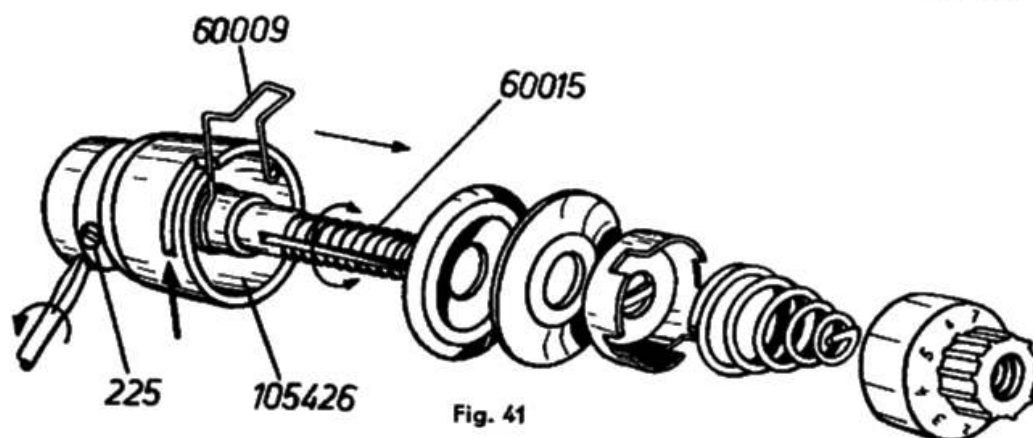

Fig. 41
reached from above. Then the complete tension can be pulled forward out of the machine. (Make certain that you do not lose the tension release plunger and pin; it is best to lower the presser bar lifter beforehand.) Now loosen set screw (225) in the tension bushing (105426) and turn tension stud (60015) so that the radial part of check spring (60009) is opposite the slot in the tension bushing. When in this position, tension stud, check spring and tension discs can be withdrawn (Fig. 41). Now remove the broken check spring from the assembly and insert a new one with its bent loop pointing toward the tension discs. Its short elbowed end is inserted into the hole which is provided for this purpose in the tension stud. From this point on assemble the tension in the reverse sequence. However, before tightening the set screw in the tension bushing, turn the tension stud over to the left until the check spring will rest just lightly against the end of its slot (see arrow). After inserting the tension release pin into the hollow tension stud the assembled tension is replaced in the machine.